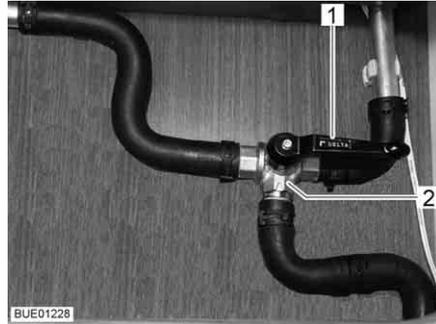

Fig. 169 3-way valve
- Set the lever (Fig. 169,1) of the 3-way valve (Fig. 169,2) parallel to the straight flow direction (Fig. 169).
- Set the lever (Fig. 169,1) of the 3-way valve (Fig. 169,2) transverse to the straight flow direction.